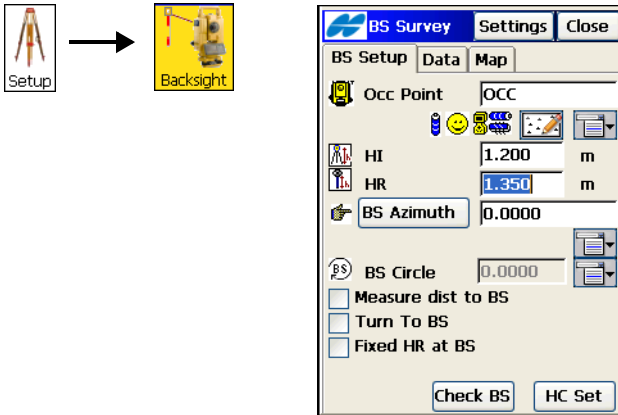
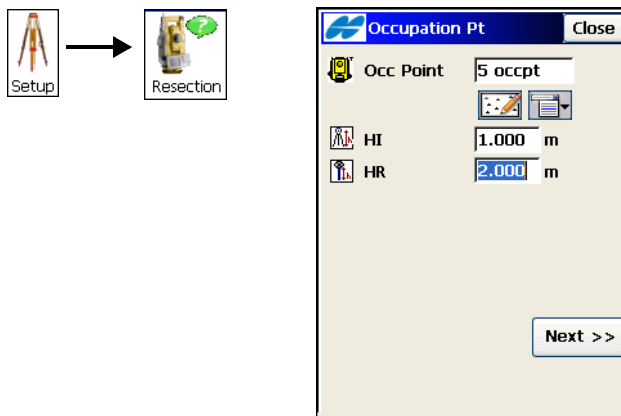

Figure 8-34. Backsight Survey
Figure 8-39. Occupation Point
1. Tap **Setup ► Backsight** (Figure 8-34 on page 8-33). The **BS Survey** screen displays.
2. On the **BS Survey** screen, set the following backsight parameters (Figure 8-34 on page 8-33):
bitmap in the corresponding field) and check if the distance to the backsight should be measured and if the height of the backsight point rod is fixed (Figure 8-34).
- To adjust the horizontal circle of the total station, tap the **HC Set** button (Figure 8-34). Using the **Backsight HC** screen, set the horizontal circle reading that corresponds to the backsight point direction. Enter the value manually or choose the value of the horizontal circle using the menu on the bitmap in the **BS Circle** field.
2. Tap **Setup ▶ Resection** (Figure 8-39). This function is also available from the *Backsight Survey* screen. Tap **Setup ▶ Backsight**, then tap the menu icon next to the Map icon in the *Occ. Point* field and select the *Resection* item (Figure 8-34 on page 8-33).
2. Tap **Setup ▶ Remote BM**. This function is also available from the *Backsight Survey* screen. Select the **Setup ▶ Backsight** icons, then tap the icon menu next to the Map icon in the *Occ. Point* field and select the *Elevation* item (Figure 8-34 on page 8-33).